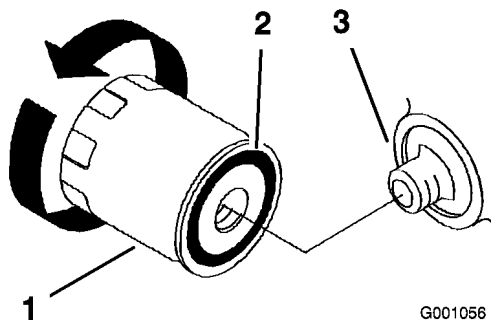

Figure 47
2. Turn the filter counterclockwise to remove it (Figure 47 and Figure 47).